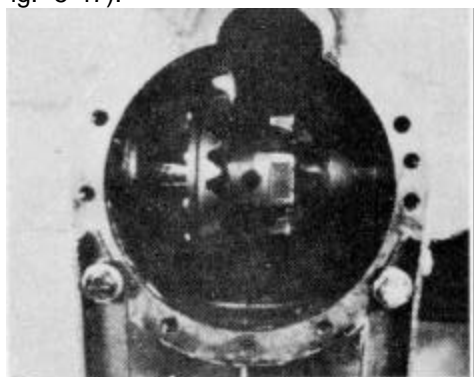

Figure 5-47
13. The bevel gear and differential assembly are now visible (Fig. 5-47).